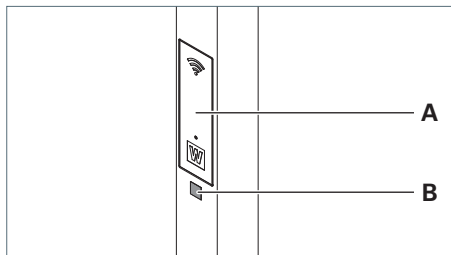

Fig. 21: Scanning QR code.
- Scan the QR code **B** of the luminaire which is located on the column underneath the service flap **A**, see Fig. 21.